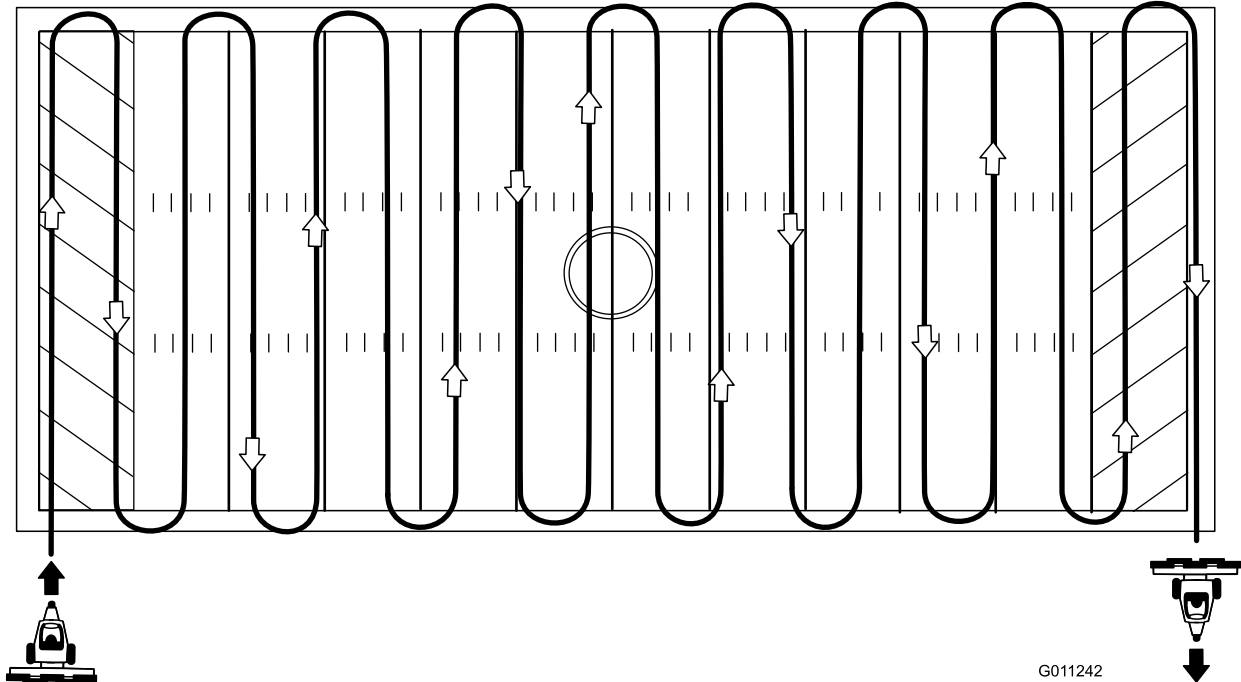

Figure 4
- The recommended pattern for conditioning sports field is shown in Figure 4.